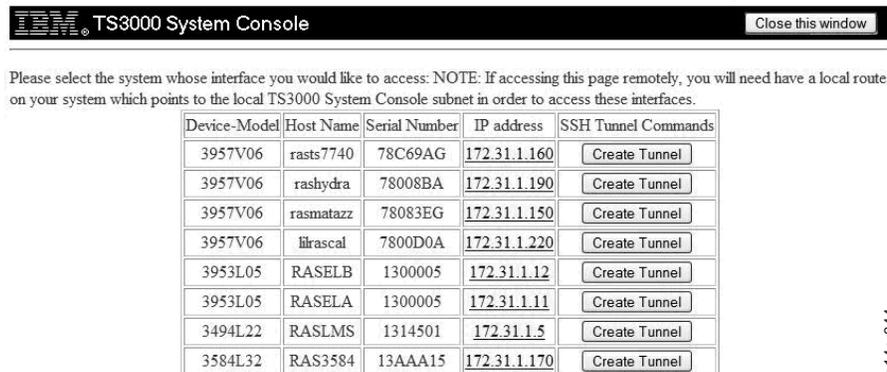

Figure 251. System Selection Screen
- Select **System Interfaces**. You see the screen shown in Figure 251.